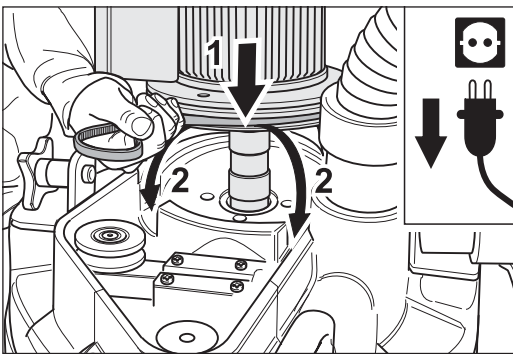

Fig. 96 Loop the new V-belt around the motor pulley (1) and insert the motor. **Make sure the belt is passed through the two recesses on the machine housing (2)!**
- 2 With V-belt in place, lower motor vertically onto the machine housing (fig. 96, 1). Make sure the V-belt does not slide off the motor pulley and get jammed between the motor and the machine housing. **The belt must be passed through the two recesses on the machine housing (fig. 96, 2)!**